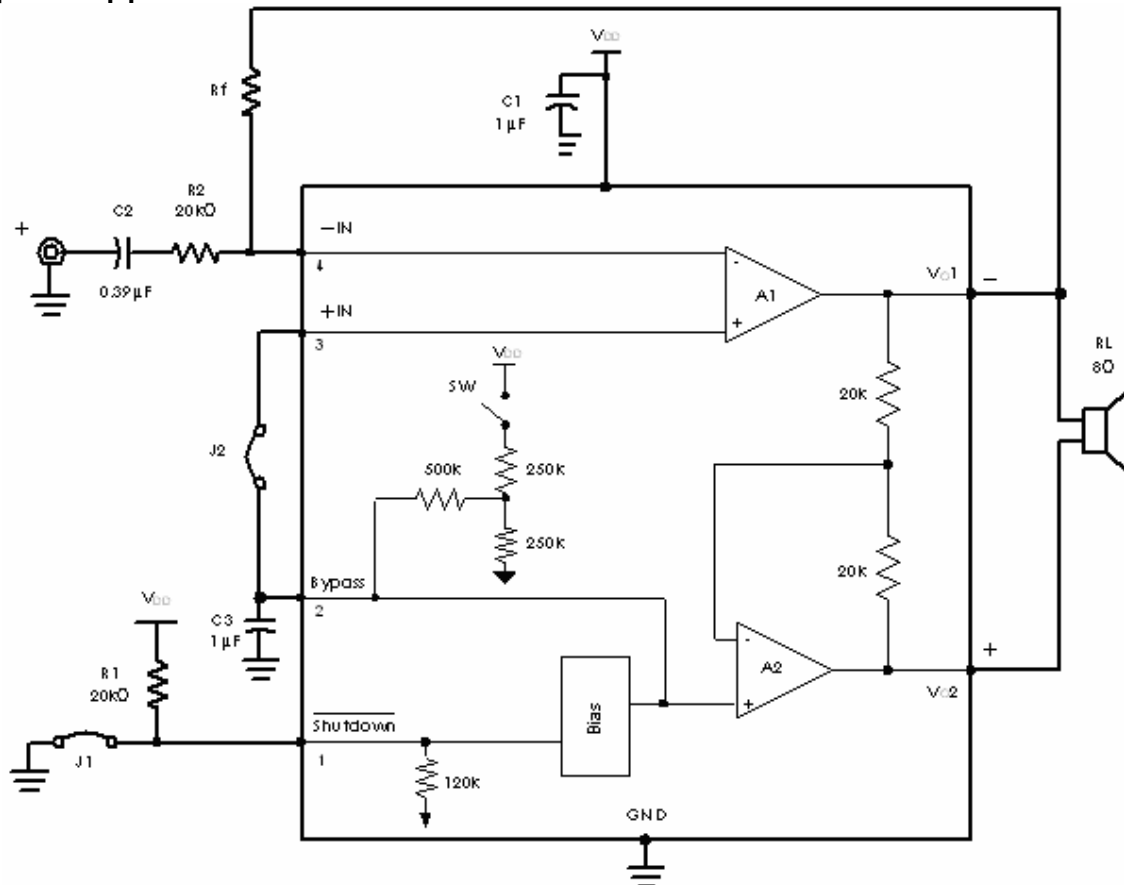

FIGURE 1. Typical Audio Amplifier Application Circuit
- PSRR at 217Hz, VDD = 5V (Fig. 1) 60dB(typ.)
The following specifications apply for the circuit shown in Figure 1 unless otherwise specified. Limits apply for TA = 25°C.
The following specifications apply for the circuit shown in Figure 1 unless otherwise specified. Limits apply for $T_A = 25^\circ C$.
Note 10: PSRR is a function of system gain. Specifications apply to the circuit in Figure 1 where A_V = 2. Higher system gains will reduce PSRR value by the amount of gain increase. A system gain of 10 represents a gain increase of 14dB. PSRR will be reduced by 14dB and applies to all operating voltages.
External Components Description (Figure 1)
As shown in *Figure 1*, the EMA1901 has two operational amplifiers internally, A1 and A2, allowing for a few different amplifier configurations. A1's gain is externally configurable, while A2 is internally fixed in a unity-gain, inverting configuration. The closed-loop gain of A1 is set by selecting the ratio of R_f to R_2 , while A2's gain is fixed by the two internal $20k\Omega$ resistors. *Figure 1* shows that the output of A1 serves as the input to A2, which results in both amplifiers producing signals identical in magnitude, but out of phase by 180° . Hence, the differential gain for the IC is
To optimize device and system performance, proper selection of external components is critical. While the EMA1901 can support a wide range of external component combinations, careful selection of component values can maximize overall system quality. The EMA1901 is unity-gain stable, which gives the designer maximum system flexibility. The EMA1901 should be used in low gain configurations to minimize THD+N values, and maximize the signal to noise ratio. Low gain configurations require large input signals to obtain a given output power. Input signals equal to or greater than 1V_{rms} are available from sources such as audio codecs. Please refer to the section, **Audio Power Amplifier Design**, for a more complete explanation of proper gain selection. Besides gain, one of the major considerations is the closed loop bandwidth of the amplifier. The bandwidth is primarily determined by the choice of external components shown in *Figure 1*. The input coupling capacitor, C_2 , forms a first order high pass filter, which limits low frequency response. This value should be chosen based on needed frequency response for a few distinct reasons.